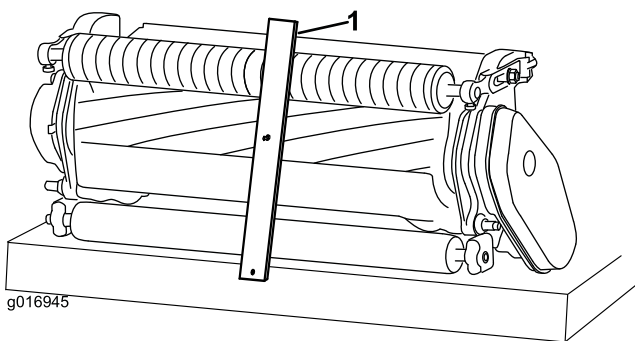

Figure 10
2. Hook the screw head of the height-of-cut gauge bar onto the right side of the cutting edge of the bedknife and rest the rear end of the bar onto the rear roller (Figure 10).